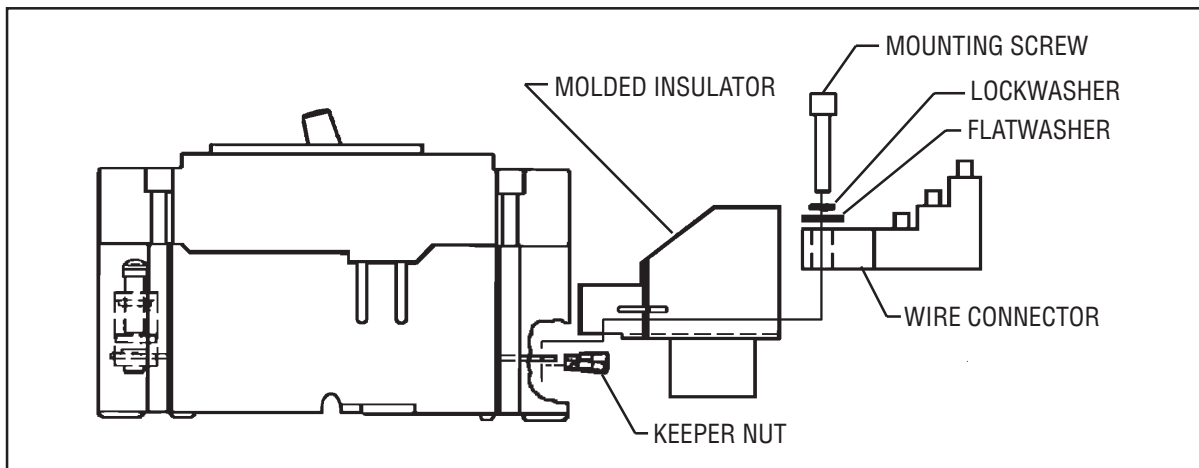

Figure 1. Typical F-Frame Circuit Breaker Installation.
If circuit breaker is installed in equipment, it **MUST** be removed from equipment for installation of this kit. This kit is intended for use **ONLY** on the **LOAD END** of the circuit breaker. See Figure 1.
2. Install keeper nuts on all **LOAD END** terminals of breaker as shown in Figure 1.
3. Place kit wire connector into molded insulator as shown in Figure 1.
4. Place molded insulator and wire connector on top of breaker terminals as shown in Figure 1.
5. Install provided mounting screw, lockwasher and flat washer as shown in Figure 1. Torque mounting screw to 35 lb.-in. (3.95 Nm).